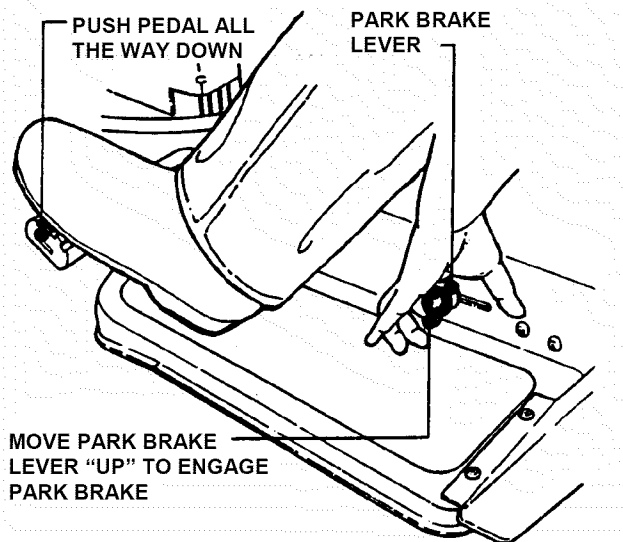

FIGURE 2.12
1. Fully depress clutch/brake pedal. See Figure 2.12.
2. Move park brake lever up into slot. See Figure 2.12.